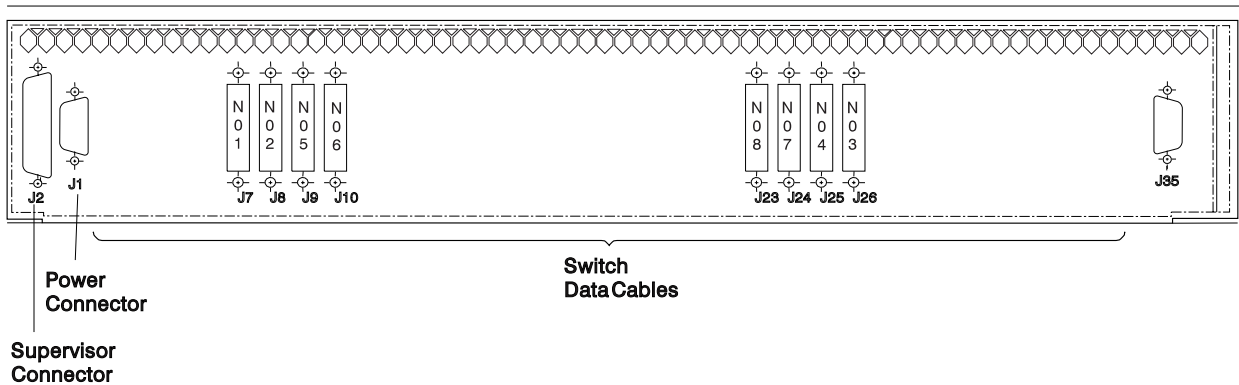

Figure 2-16. Scalable POWERparallel Switch (SPS) bulkheads
- Refer to Figure 2-16 to familiarize yourself with the SPS bulkheads.